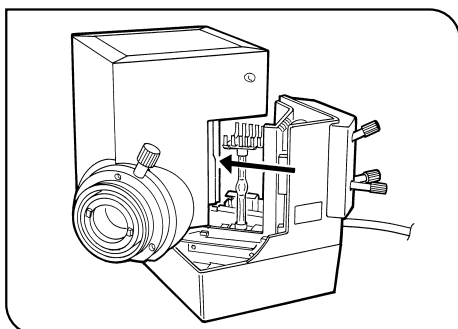

Fig. 7
3. Insert the lamp socket into the lamp housing. (Fig. 7)